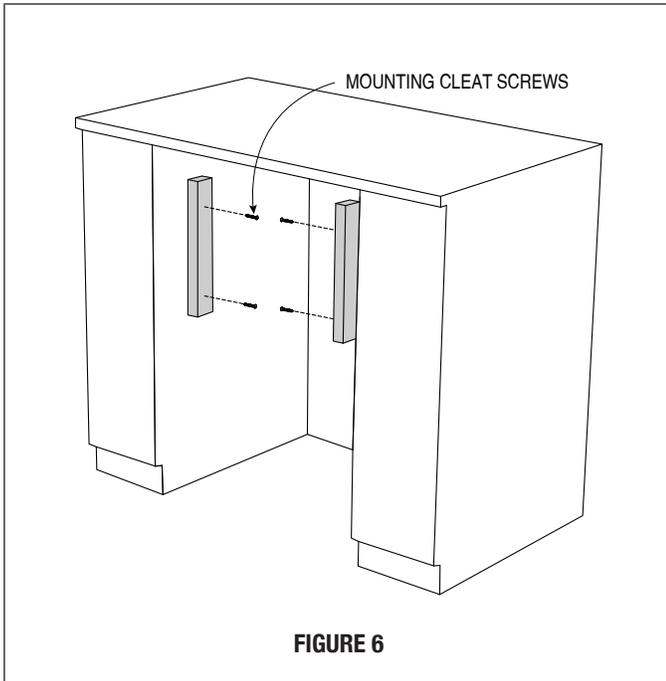
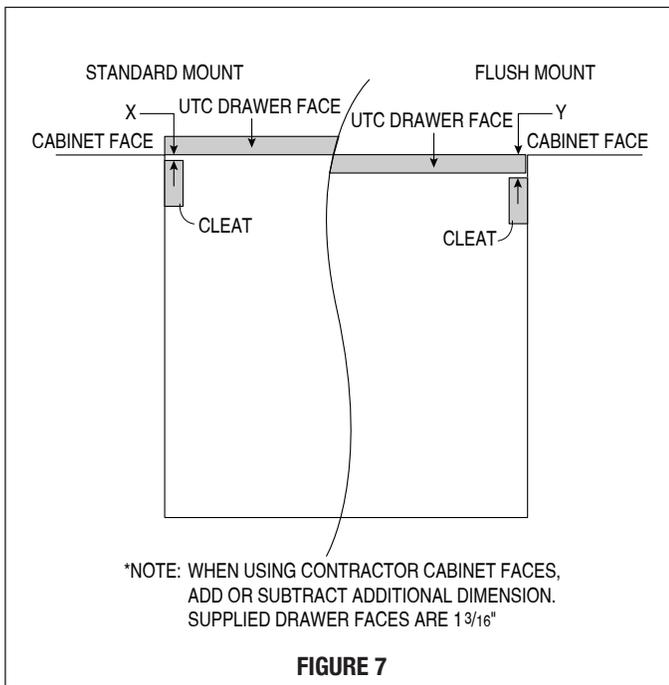

FIGURE 6
FIGURE 7
6. Install the wooden cleats. Align the bottom of the cleat to the measurement from Step 5. The pedestal can be installed flush or standard with the face of the cabinet. Depending on the preference, the depth of the cleat position should be adjusted as such. See Figure 6. Position each cleat and mark the holes on the cabinet. Pre-drill each hole in the cabinet using a 1/16" (1.6 mm) drill bit. Attach both cleats using the 4 mounting cleat screws. See Figure 7.